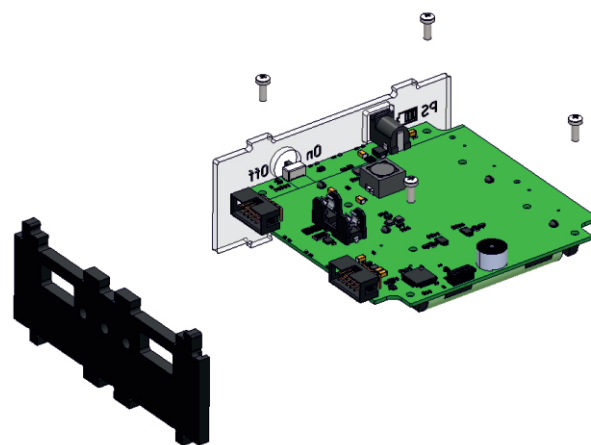

Fig. 4: Mounting a transparent panel
3) Install a transparent panel with PSS board connectors passing through its holes (Fig. 4):